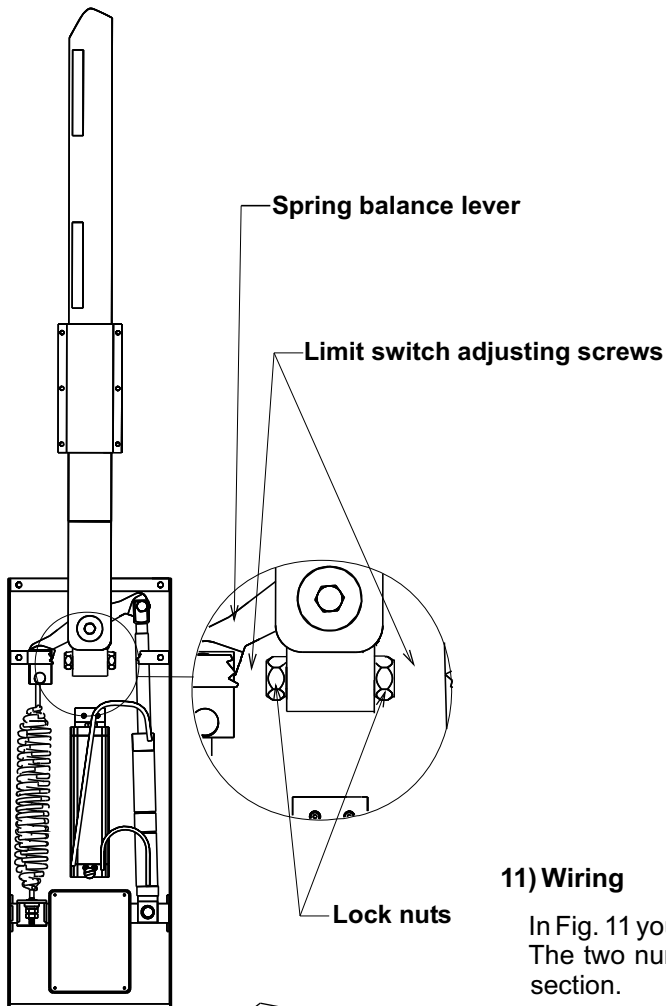

Fig. 10
- Release the end stroke screws unscrewing the lock nuts on the beam balance assembly (Fig. 10).
- Screw or unscrew the end stroke screws so that the beam stays perfectly vertical in opening and perfectly horizontal in closing (Fig. 10).